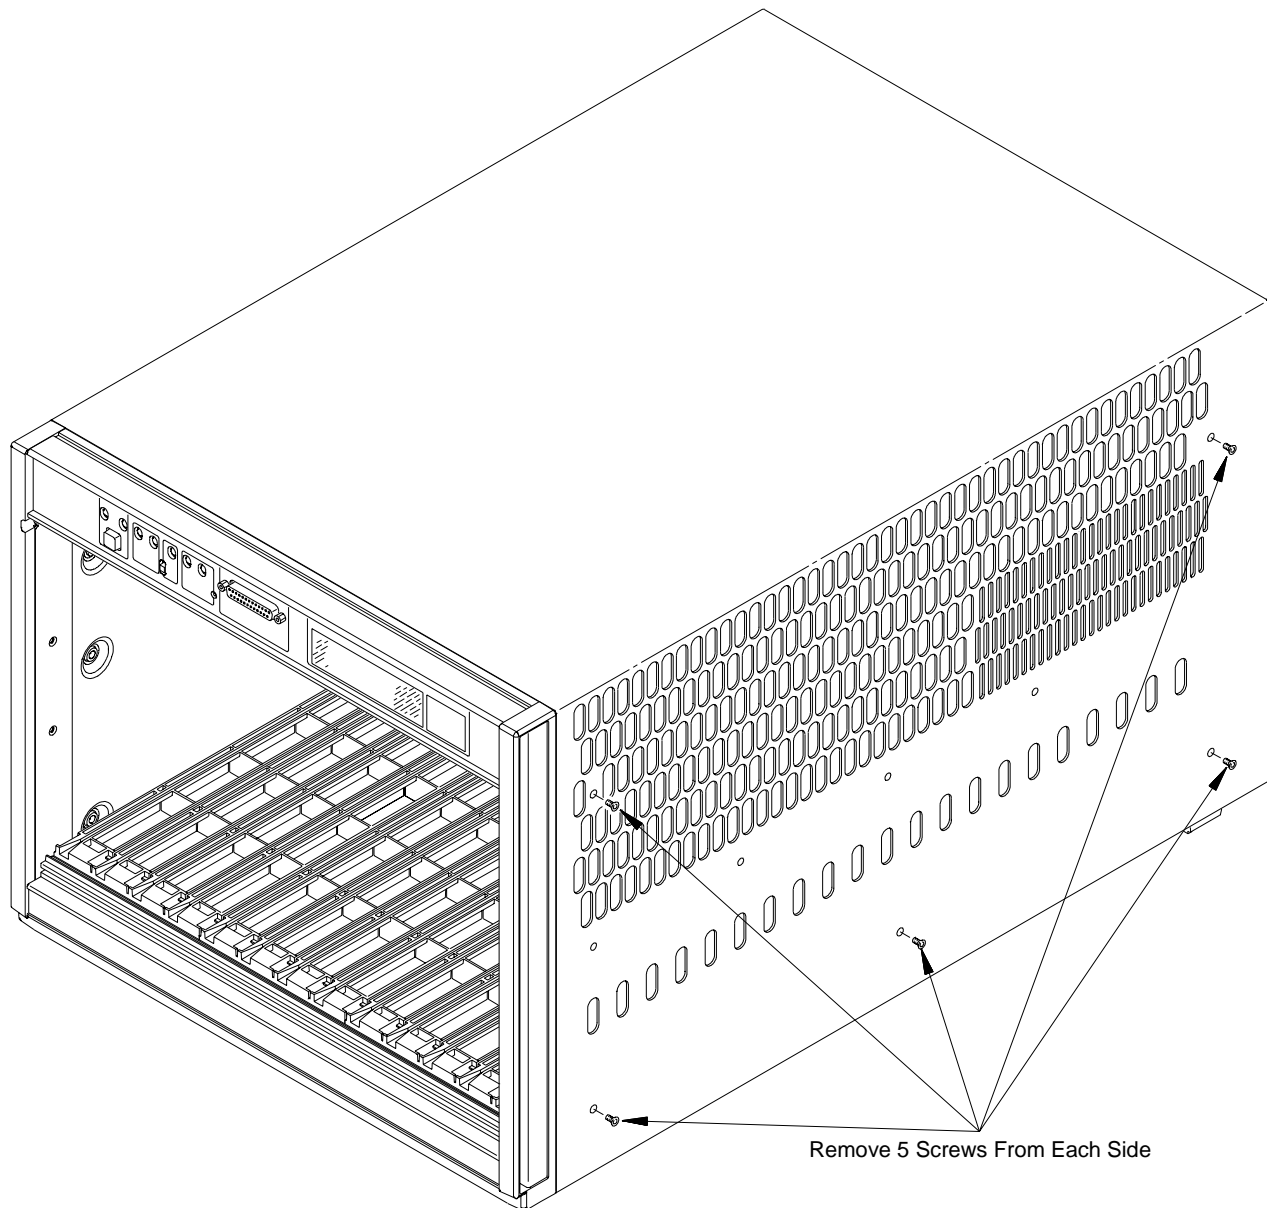

Figure 5-2. Removing the Mainframe Cover
There are no user-replaceable power line fuses in the HP E8402 and E8404 VXI mainframes. If the mainframe power supply fails to operate, the power supply should be replaced. Exchange assemblies are available; refer to Figure 5-2.
3. Remove the mainframe cover by removing the ten m3x6 flat head torx screws (five on each side of the mainframe). Refer to Figure 5-2.